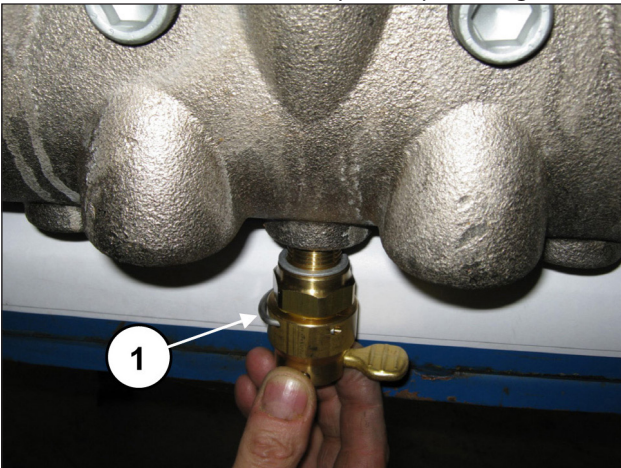
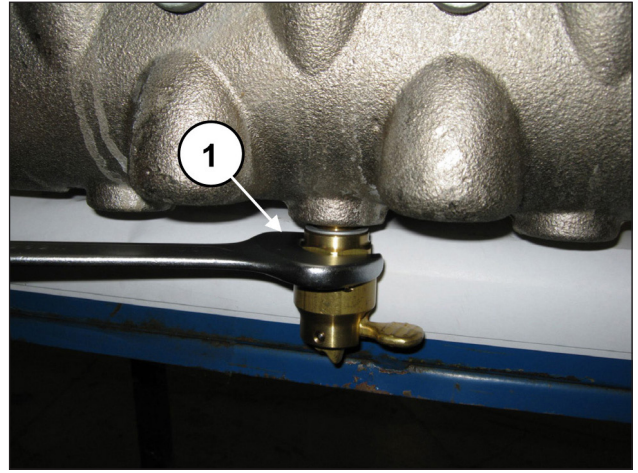

Fig. 131
Fig. 132
Apply the valve opening devices (pos. ①, Fig. 131) and screw them in with the use of a 30 mm spanner (pos. ①, Fig. 132).